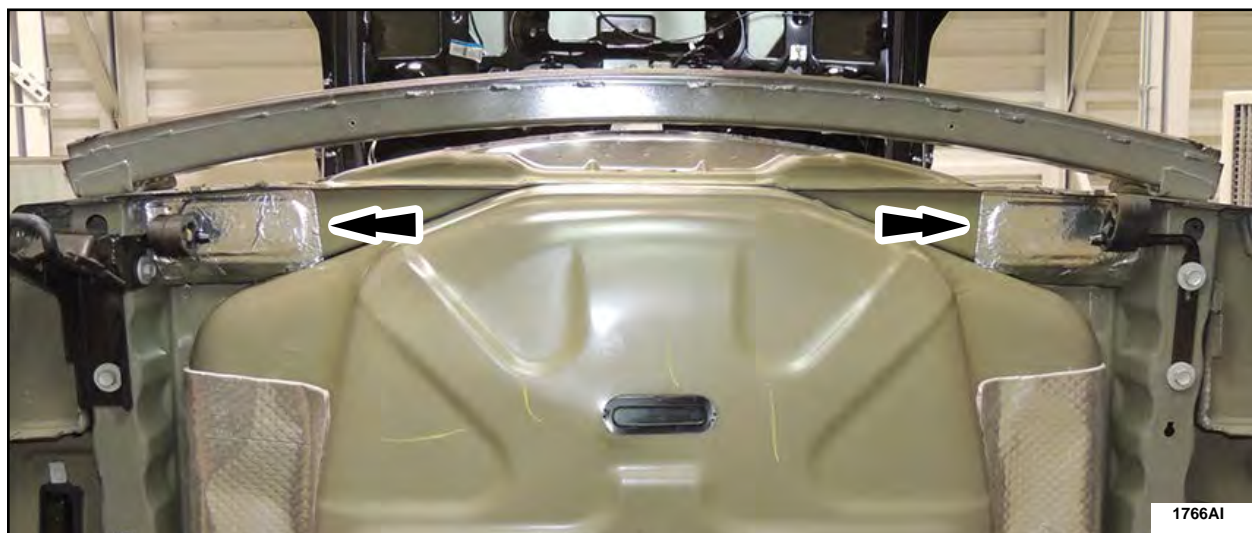

FIGURE 34
6. Clean the body plugs and surrounding sheet metal, then apply the mastic patches to the underbody plugs as shown in Figure 34.